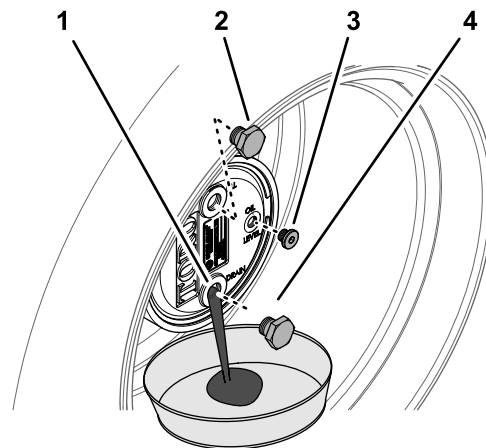

Figure 105
2. Remove the fill plug at the 12 o'clock position and the check plug at the 3 o'clock position (Figure 105).
3. Place a drain pan under the planetary hub, remove the drain plug at the 6 o'clock position, and allow the oil to fully drain (Figure 105).
5. Install the drain plug into the drain hole of the planetary housing (Figure 105).